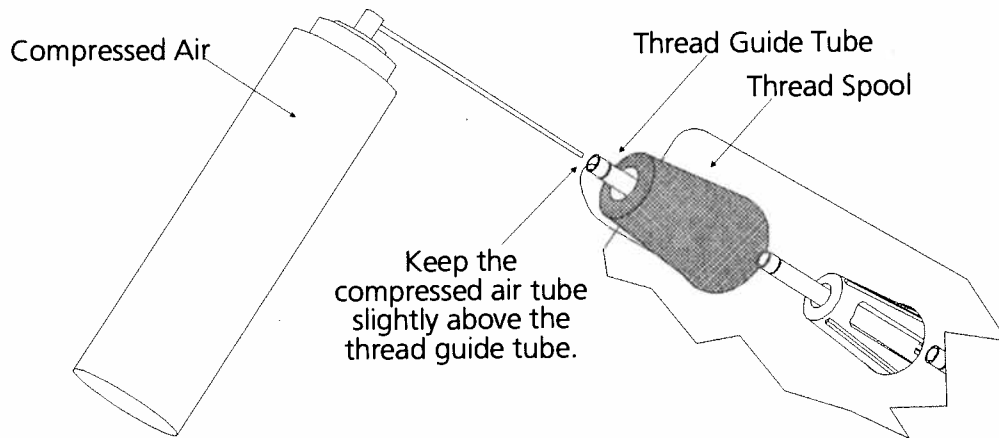

Figure 4-2
- Using a can of compressed air, shoot a short burst of air into the tube as shown in Figure 4-2. The compressed air will force the thread through the tubing, exiting above the pretensioner.